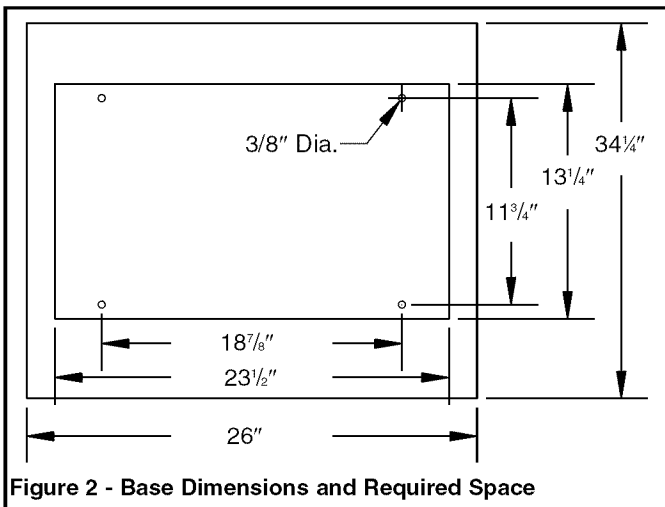

Figure 2 - Base Dimensions and Required Space
Refer to Figure 2.
- Figure 2 shows the base dimensions, mounting holes and required space to allow for table assembly in horizontal position.